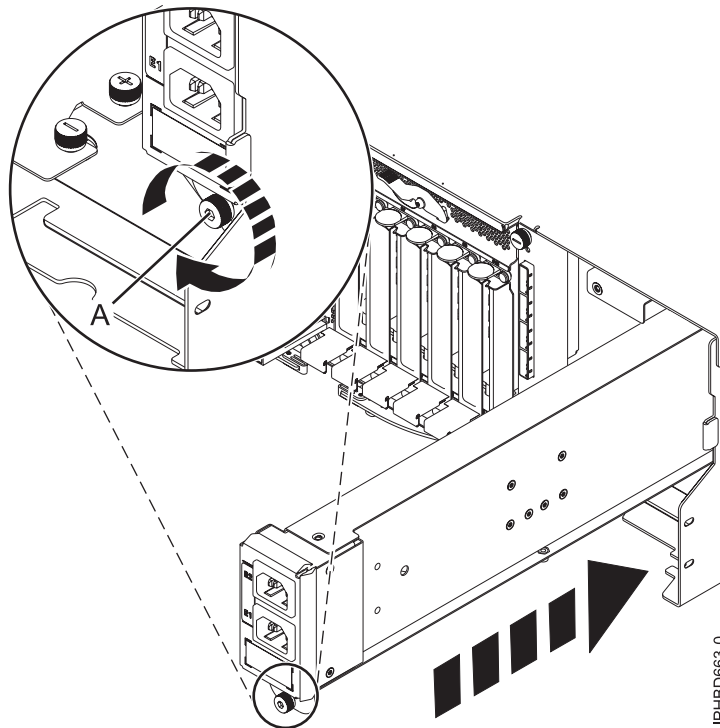

Figure 28. Replacing an input power distribution assembly
- Push the input power distribution assembly into the expansion unit until it latches into place, and then tighten the thumbscrew **(A)** to secure the assembly in place as shown in Figure 28.